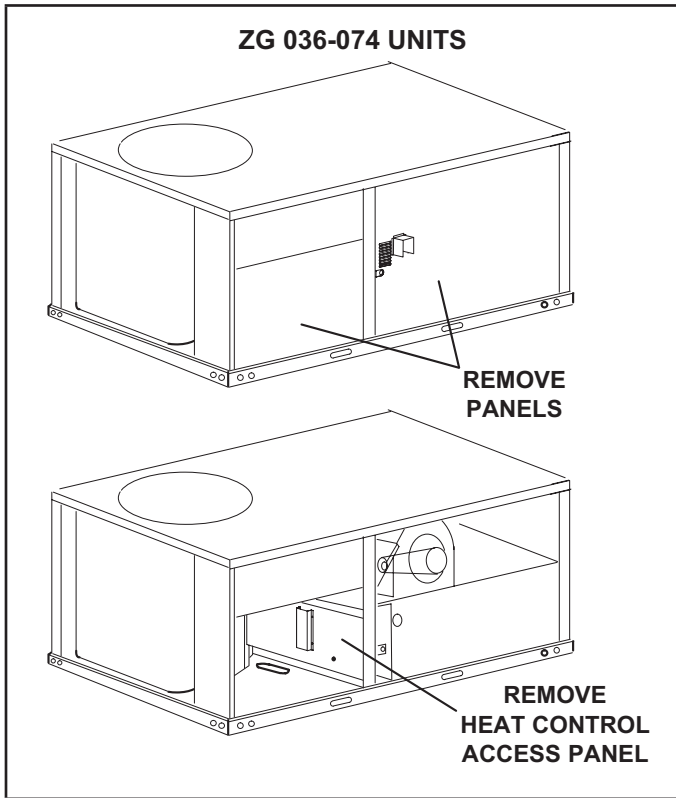

Figure 1
- 2 - Open access panels as shown in figure 1. On LGM/LGH/KG/SG units, remove the mullion between the heat and compressors sections.